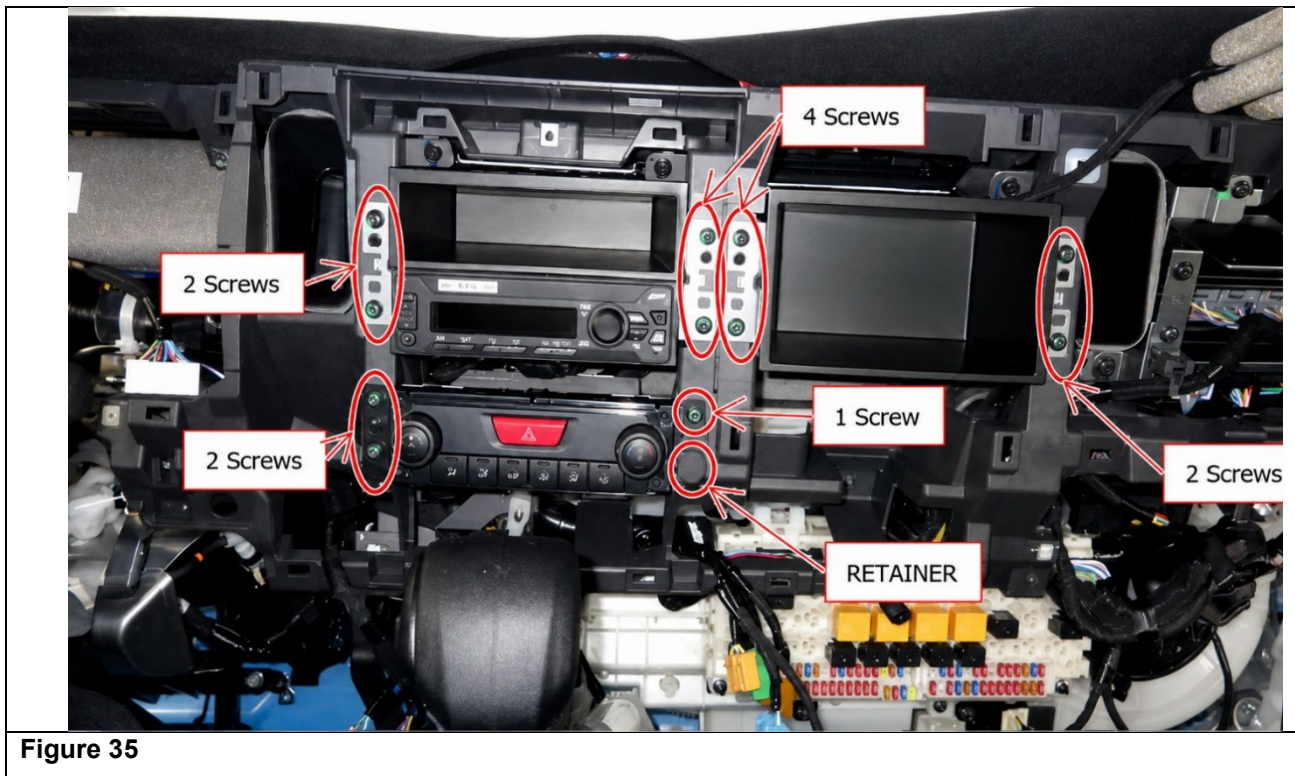

Figure 35
38. Using a T25 Torx screwdriver, remove all the screws and the retainer as shown. (See Figure 35.)